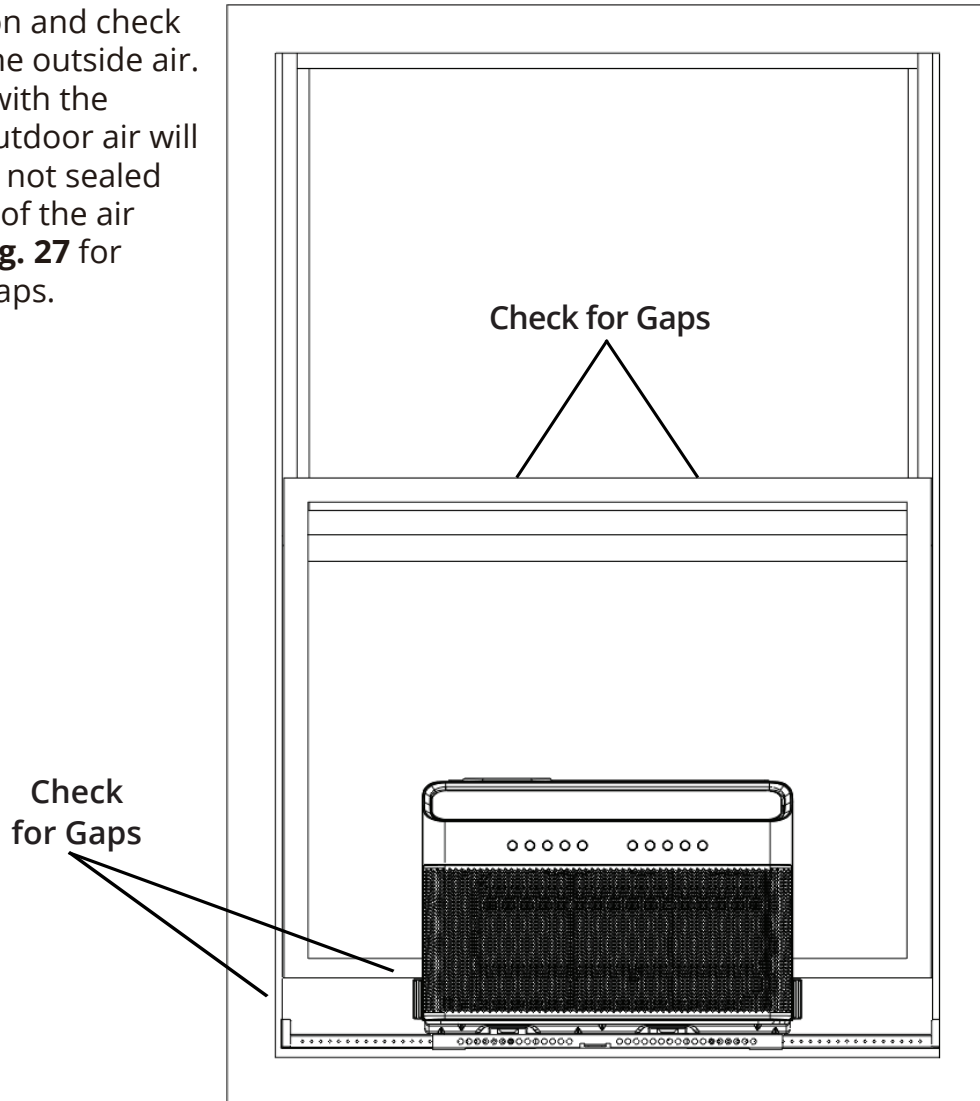

Fig. 27
I. Finally, review the installation and check for any gaps or openings to the outside air. If any are found, cover them with the provided foam ensuring no outdoor air will leak inside. Any leaks that are not sealed could affect the performance of the air conditioner. Please refer to **Fig. 27** for the areas to check for leaks/gaps.